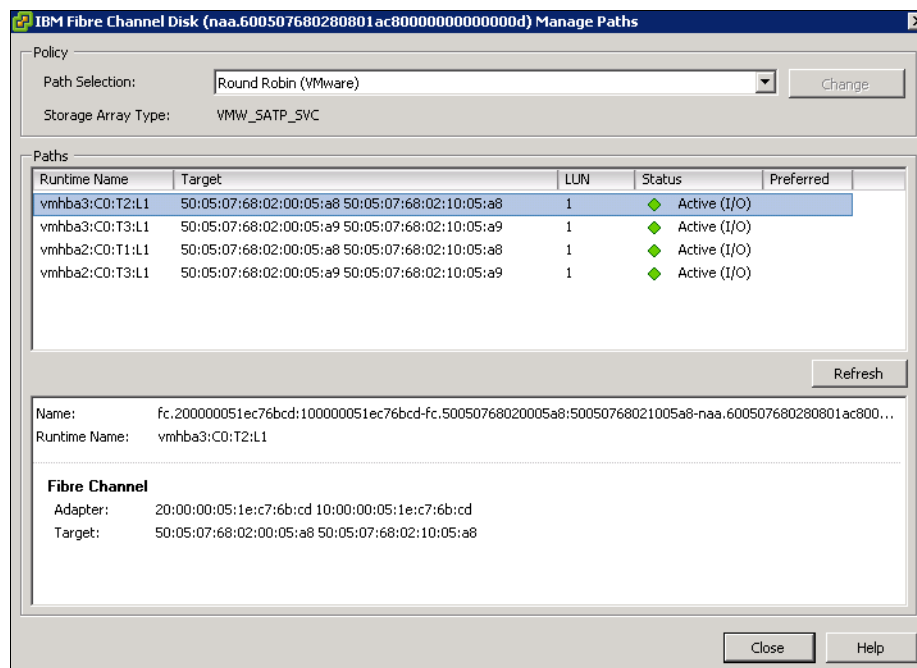

Figure 5-52 Select a data store multipath setting
- Click **Manage Paths** to customize the multipath settings. Select **Round Robin** (Figure 5-52) and click **Change**.